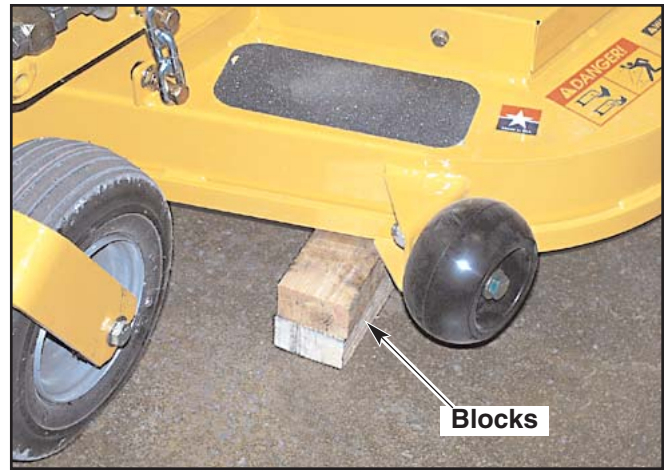

Figure 9-34
3. Raise deck and place 3" of blocking under all 4 corners of the deck (Fig. 9-34). This will set the cutting height at 3 1/4". **NOTE:** Back of deck will automatically be set 1/4" higher.